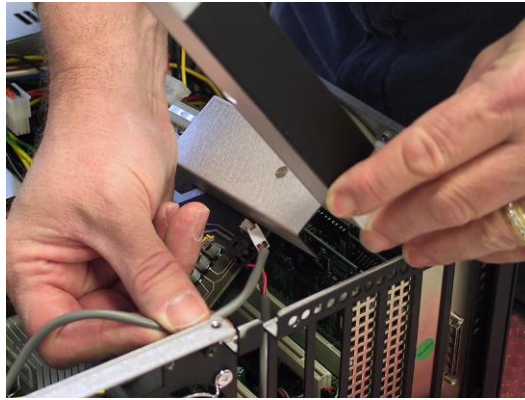

Figure 4-65
- 10) Disconnect the audio input cable from the power distribution board as illustrated in Figure 4-65. This connector is black and has a latch. Note that the audio amplifier is also on the power distribution board.